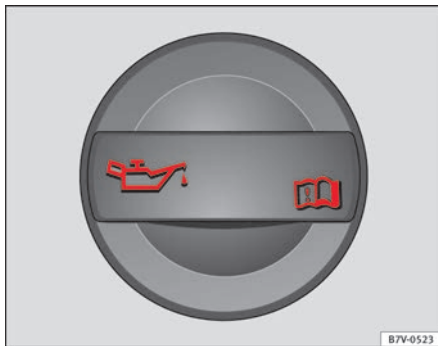

Fig. 169 In the engine compartment: Engine oil filler cap.
- The engine oil filler opening can be recognised by the symbol  on the cap \Rightarrow fig. 169 and the dipstick by its coloured handle.
- Unscrew the cap from engine oil filler opening on the cylinder head ⇒ **fig. 169**. If you are not sure where the cap is, request help from a specialist.